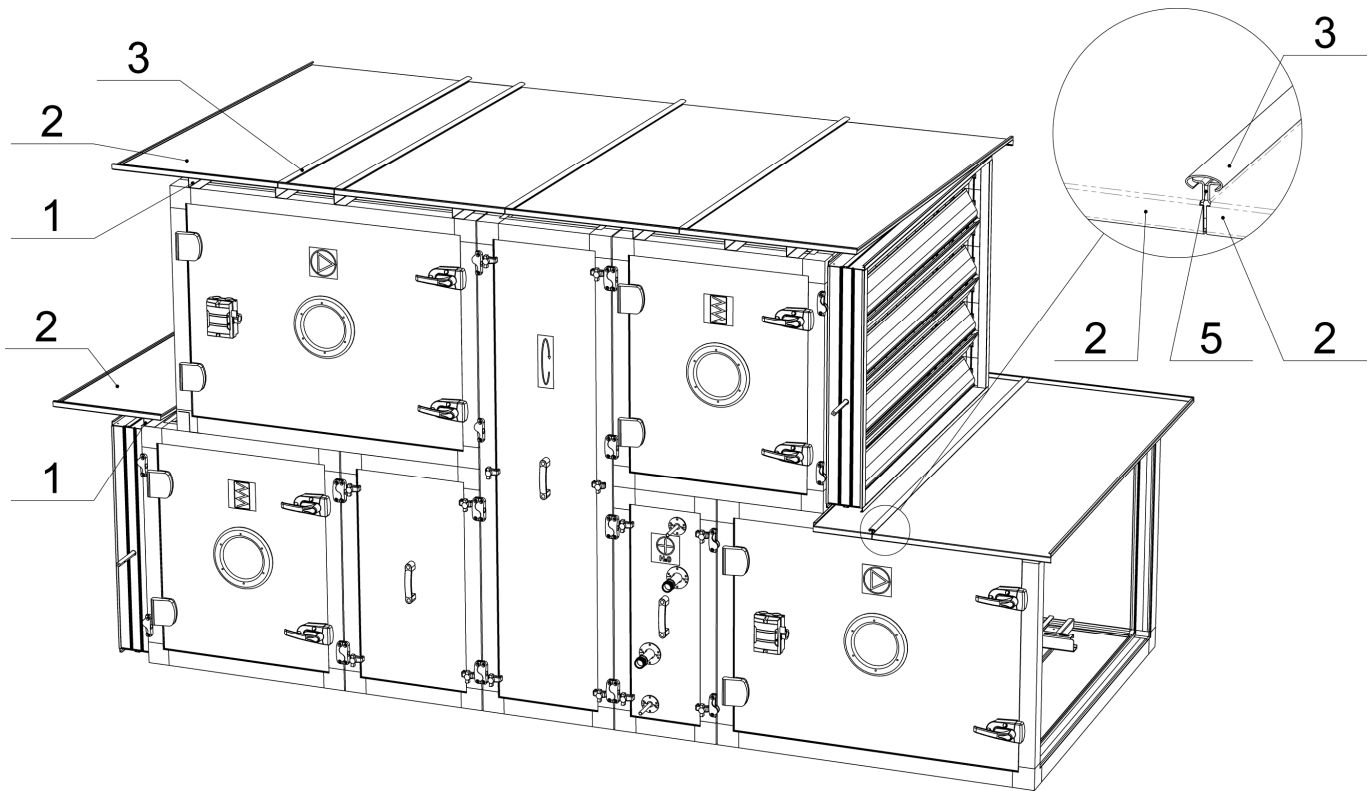
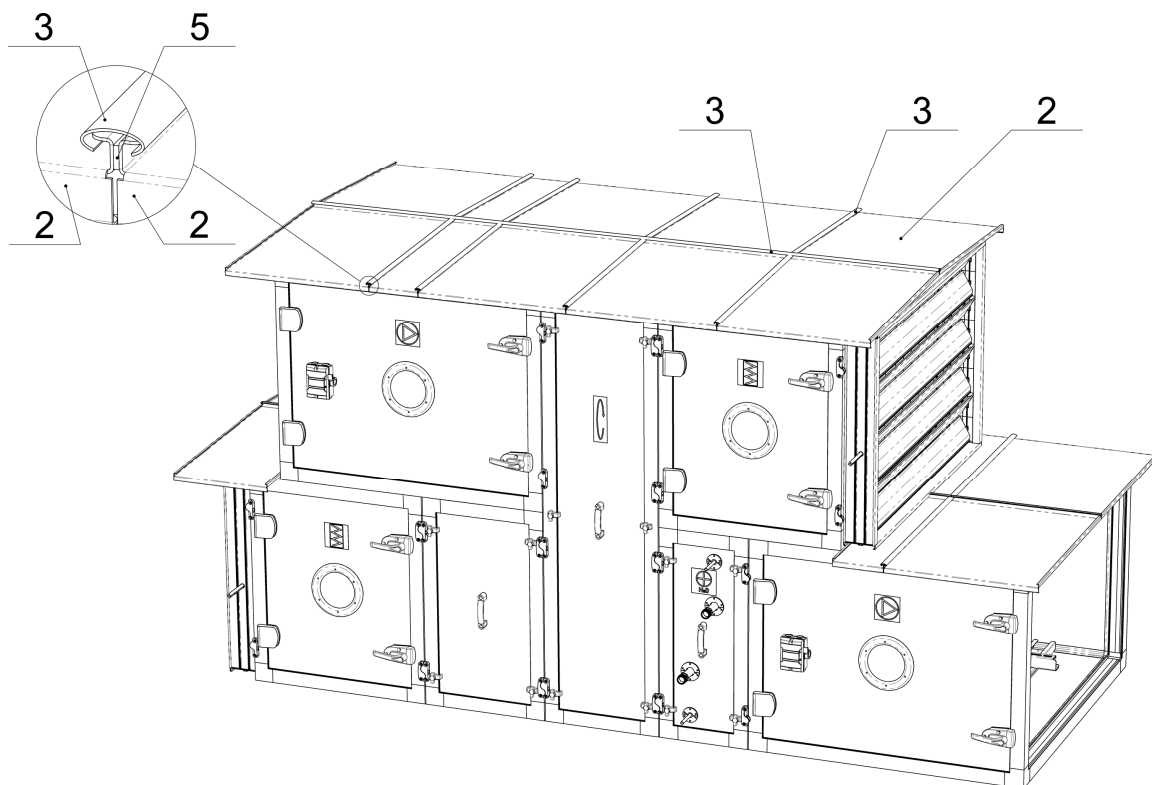

Figure 8.6.2 - Roof assembly with single slope. Step 2.
Figure 8.6.4 - Roof assembly with double slope. Step 2.
2. Fix roof segments 2 to the guiding profiles 1 using self-screws and rubber washers supplied with the unit (Figure 8.6.2 or Figure 8.6.4).
3. If air damper 4 or duct is above lower section of AHU as shown in Figure 8.6.2 or Figure 8.6.4, it can be a problem to fix roof with guiding profiles 1. In such a case fix roof segments 2 directly to the AHU roof with self-screws and rubber washers.